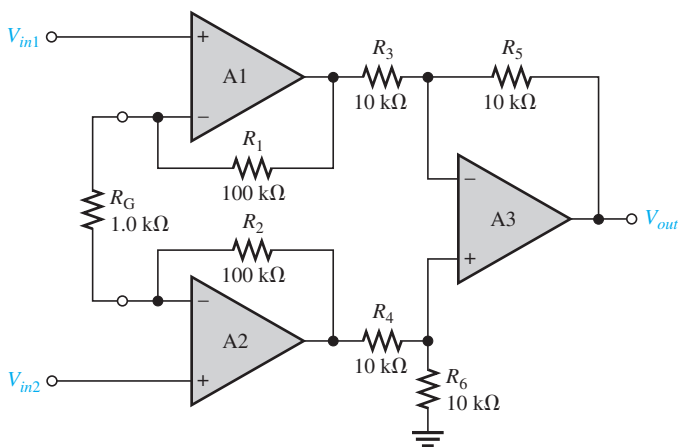

FIGURE 12-35
1. Determine the voltage gains of op-amps A1 and A2 for the instrumentation amplifier configuration in Figure 12-35.
2. Find the overall voltage gain of the instrumentation amplifier in Figure 12-35.
3. The following voltages are applied to the instrumentation amplifier in Figure 12-35. $V_{in1} = 5$ mV, $V_{in2} = 10$ mV, and $V_{cm} = 225$ mV. Determine the final output voltage.
4. What value of R_G must be used to change the gain of the instrumentation amplifier in Figure 12-35 to 1000?